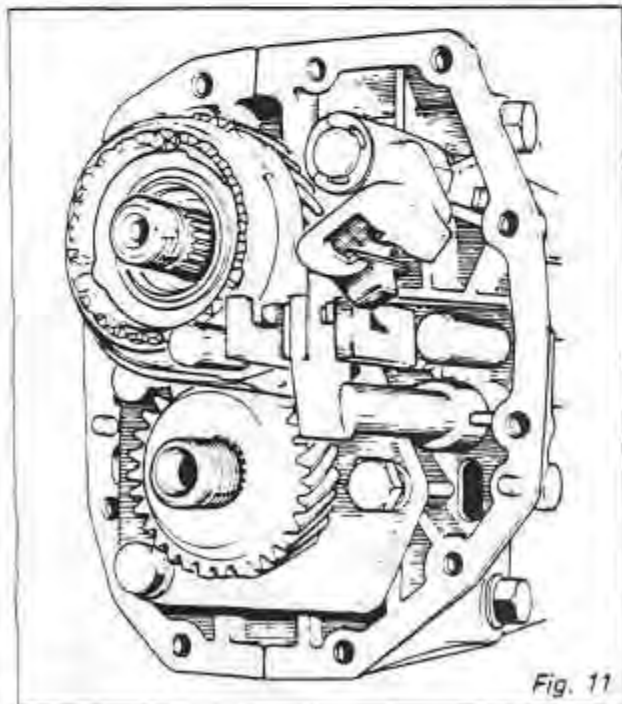

Fig. 11
5. Select two (2) gears at the same time by moving any two (2) shift rods, to lock transmission. (Fig. 11)